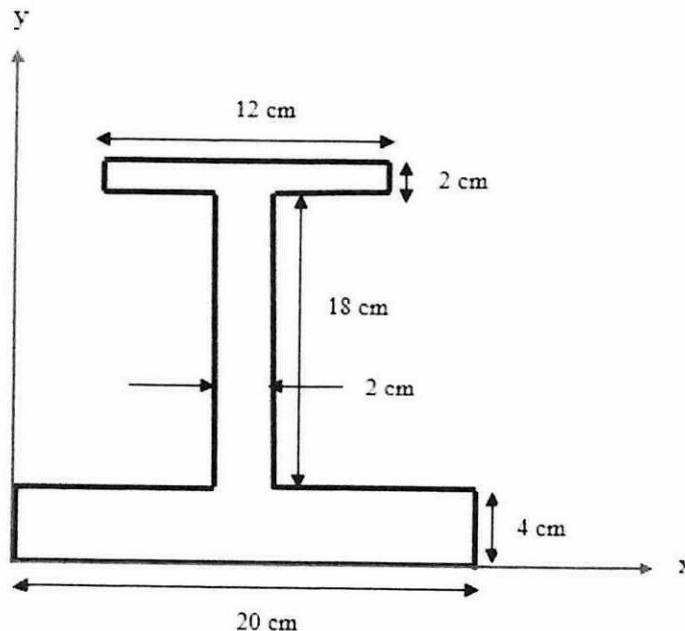

FIGURE Q3.1
- (c) **Figure Q3.1** displays an I-beam shaped, characterized by the following dimensions: the top flange has a width of 12 cm and a thickness of 2 cm, while the web measures 18 cm in height with a thickness of 2 cm. The bottom flange is 20 cm width and 4 cm thickness. Calculate the followings for this I-beam cross-section: